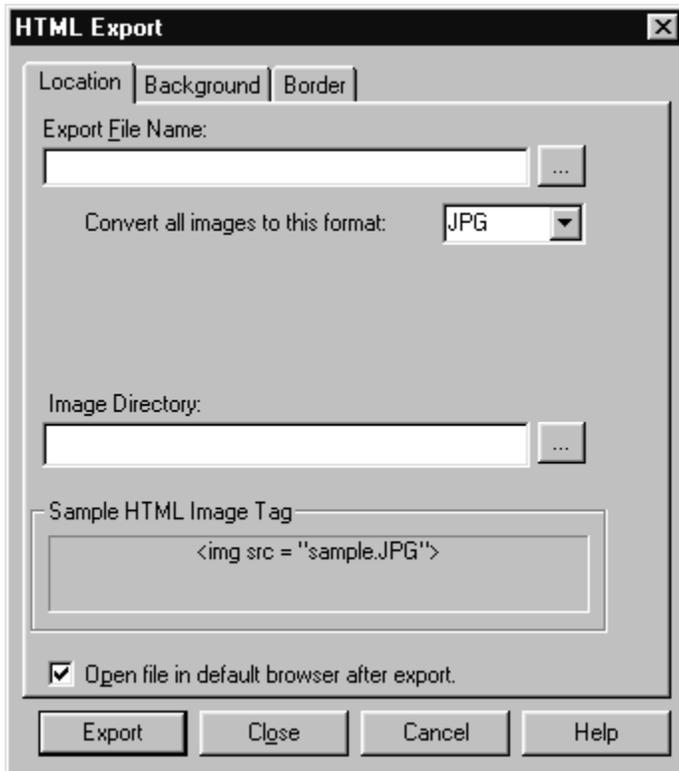

Figure 17.6 HTML Export Tabbed Dialog
1. On the Export dialog box, highlight “HTML” in the list box and select Edit to display the HTML Export dialog (see Figure 17.6).